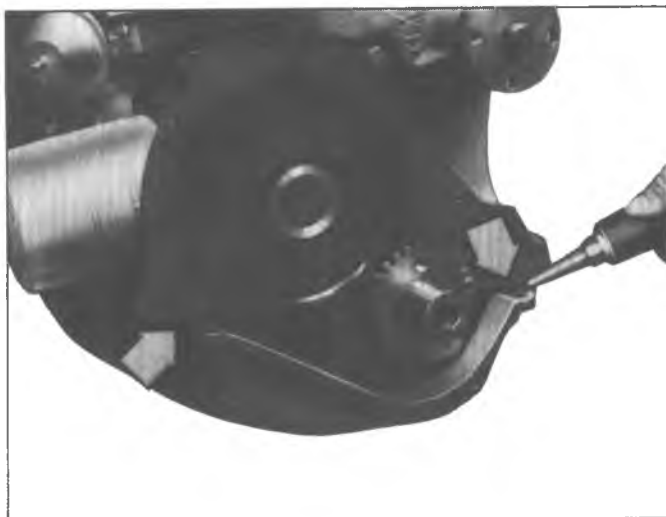

Fig. 20L—Applying Front Cover Sealer
5. Apply a 1/8 inch bead of silicone rubber sealer part #1051435 (or equivalent) to the joint formed at the oil pan and cylinder block (fig. 20L).